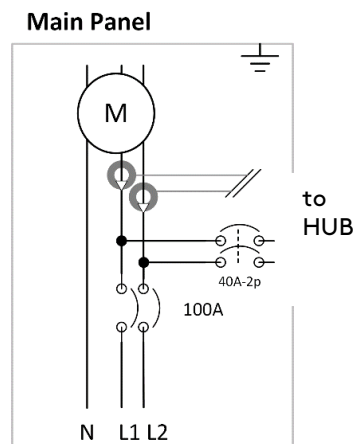

Figure 11: 100 Amp main panel line side tap to the DURACELL HUB.
Line side tapping the main electrical panel is required for ESS installations where the electrical service rating is under 200 Amp. Refer to section 2.3, figure 11.
7. For electrical services rated less than 200A, the ESS system must be line side tapped as shown in figure 11.